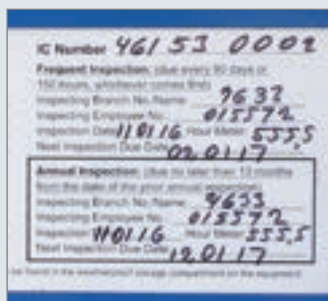

Figure 3.4. Inspection dates can be found on a decal or in the operator's manual.
- The machine is up-to-date with its scheduled maintenance and inspections (Figure 3.4)